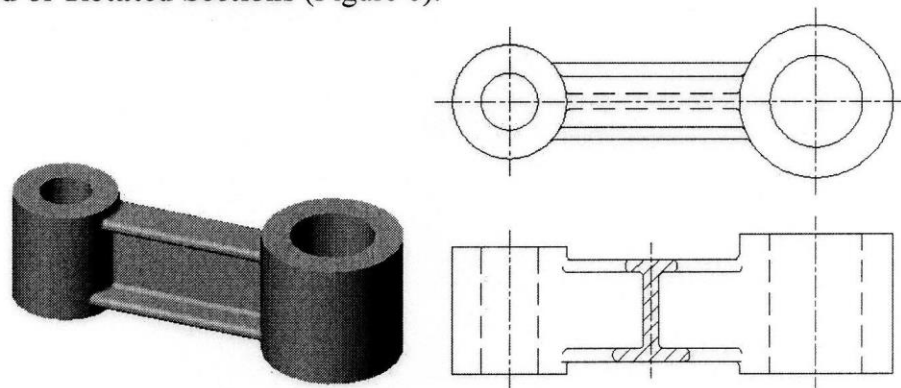

Figure 6. Revolved Section.
4. **Revolved or Rotated Sections (Figure 6).**